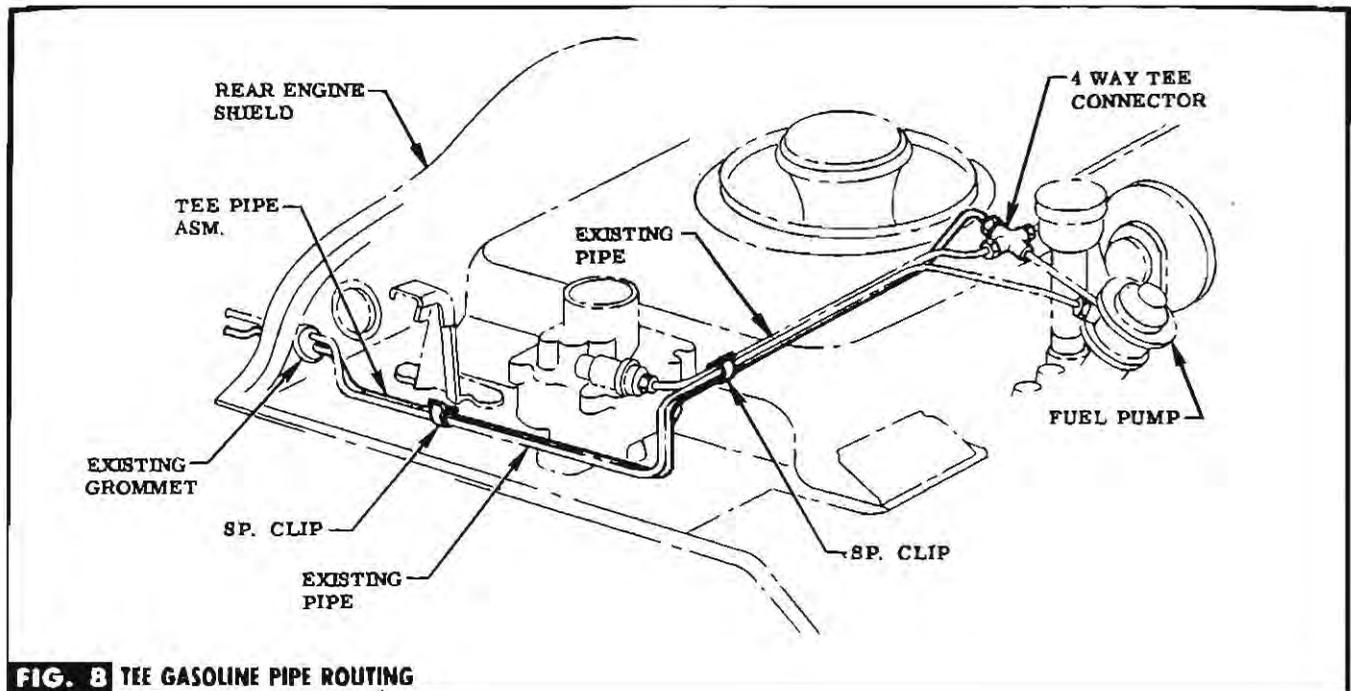

FIG. 8 TEE GASOLINE PIPE ROUTING
STEP 43 REMOVE & DISCARD 3 WAY TEE CONNECTOR & REPLACE WITH 4 WAY TEE CONNECTOR PROVIDED (IN BAG C). SEE FIG. 8.
BAG C). SEE FIG. 8.